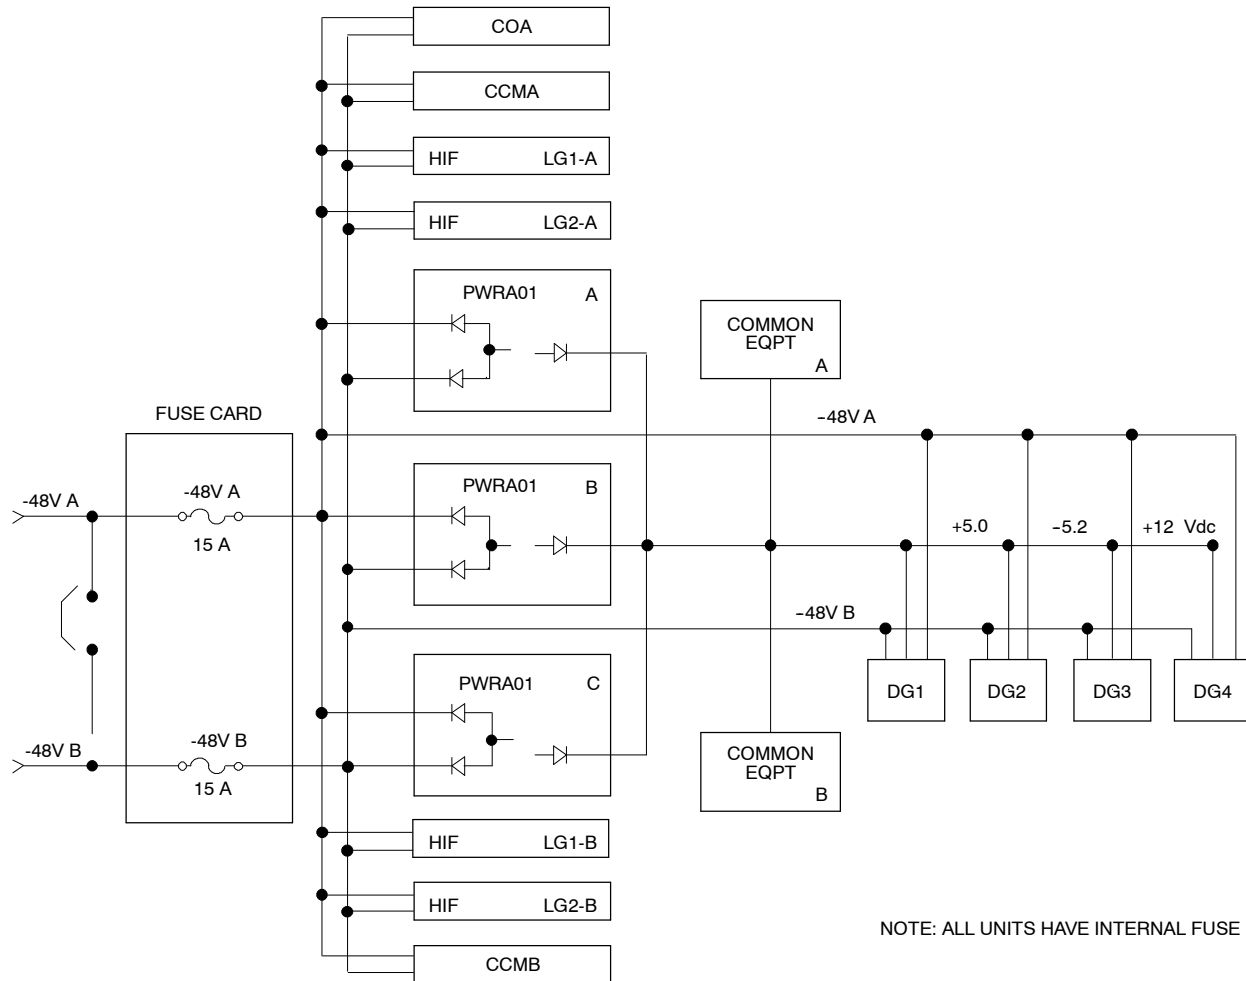

Figure 1. 1603 SMX Shelf Power Distribution
23 Locate and check shelf fuses. (See Figure 1).
- 28 If no shorts are found, review shelf power distribution diagram (Figure 1). Note that PWR units are the only plug-in units that directly use -48 Vdc power.